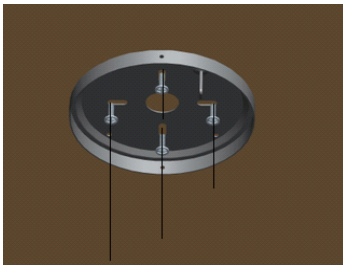

Fig 4.1
**Option 1:** Fasten the mounting plate with the ST5×24 wood setscrews (included) when securing to the wooden ceiling beam or support structure with an approved electrical outlet box as shown in Fig 4.1.